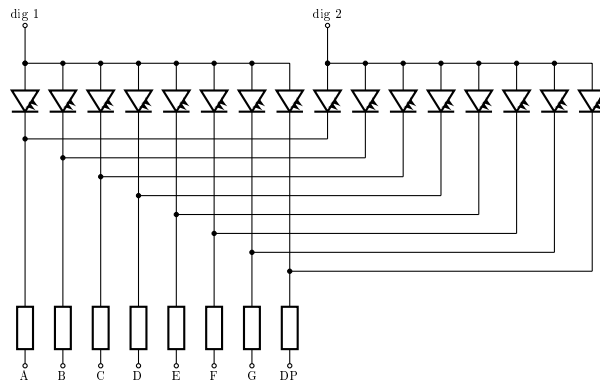

Figure 10: A 2-digit common anode digit with resistors (and a decimal point)
For an  $n$ -digit multiplexed 7-segment display, you must connect the limiting resistors as shown in Fig. 10 (the example circuit is only 2 digits). The digit pins are multiplexed, such that only one digit is on at a time, before switching to the next digit. This happens fast enough to not be seen.
4.  $7I_F$  will flow through the digit pin while displaying the number '8'. Hence  $7I_F$  should also be lower than what can handled by the Arduino  $I_F$  pin; 40 mA or preferably not more than 20-30 mA. Note that some displays have more than 7 segments per digit, i.e. if there is a decimal point (see Fig. 10) or colon (see Fig. 5). In that case, you need to multiply  $I_F$  by 8 or whatever number of segments are present per digit.